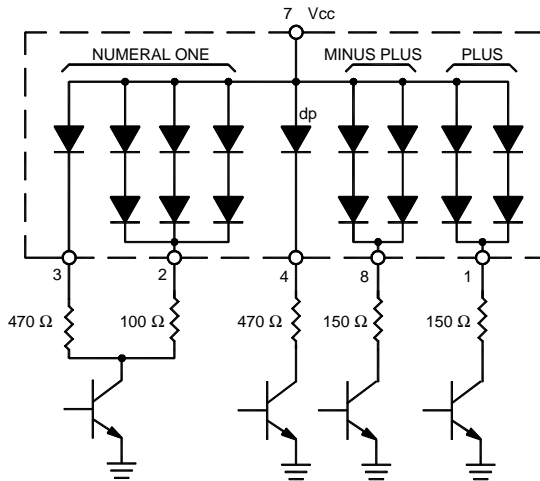

FIGURE 3. Typical Driving Circuit
- L: Line switching transistor in figure 3 cutoff.
- H: Line transistor in figure 3 saturated.